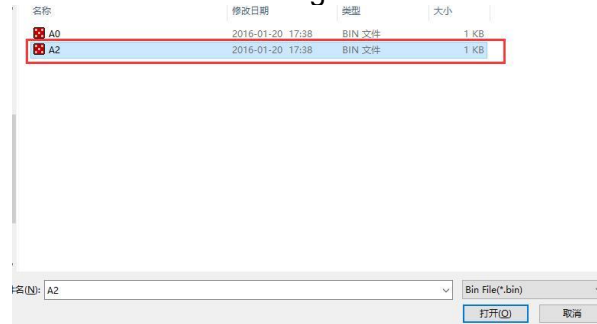

Figure 14
3.1.4 Click “ Export BinFile” to import the A2 bin (Figure 14)